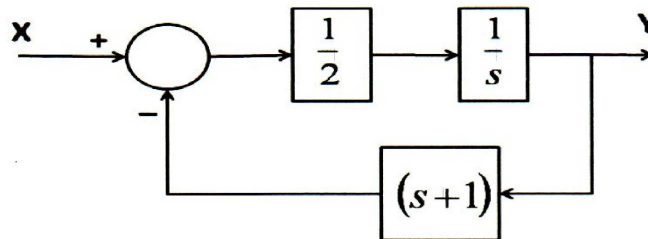

Figure 1
b) From the block diagram in Figure 1, determine the transfer function: Y/X . [4]